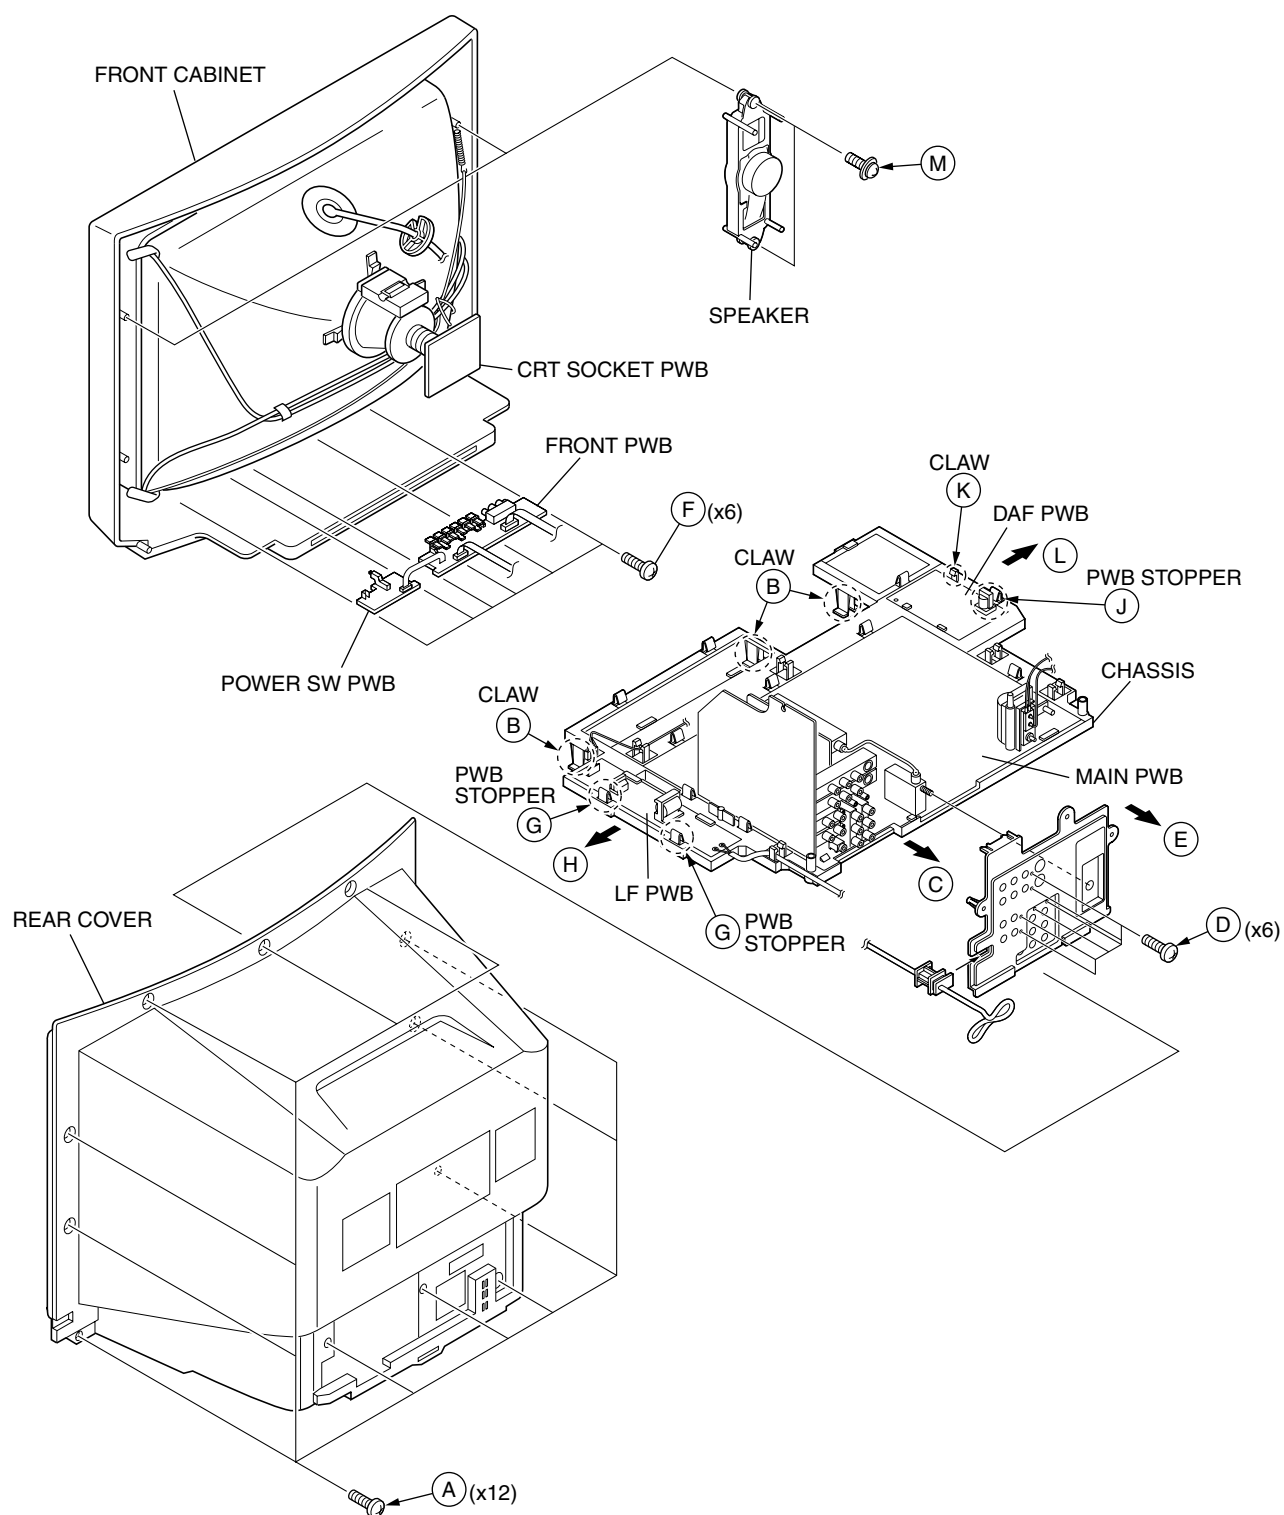

Fig.1
2. Remove the 12 screws marked (A) as shown in Fig.1.
1. Slightly raise the both sides of the chassis by hand and remove the 3 claws marked (B) under the chassis from the front cabinet as shown in Fig.1.
2. Withdraw the chassis backward along the rail in the arrow direction marked (C) as shown in Fig.1.
1. Remove the 6 screws marked (D) as shown in Fig.1.
2. When you pull out the TERMINAL BOARD in the direction of arrow marked E as shown in Fig.1, it can be removed.
1. Remove the 6 screws marked (F) as shown in Fig.1.
1. Lift the left side of the LF PWB while pressing the 2 PWB stoppers marked (G) in the arrow direction marked (H) as shown in Fig.1.
1. Lift the right side of the DAF PWB while pressing the PWB stopper marked (J) and claw marked (K) in the arrow direction marked (L) as shown in Fig.1.
1. Remove the 2 screws marked (M) as shown in Fig.1.
(4) System constant check and setting <ol style="list-style-type: none"> <li>1) Press SLEEP TIMER key and, while the indication of "SLEEP TIMER 0 MIN." is being displayed, press DISPLAY key and VIDEO STATUS key on the remote control unit simultaneously.</li> <li>2) The SERVICE MENU screen of Fig.1 is displayed.</li> <li>3) While the SERVICE MENU is displayed, again simultaneously press the DISPLAY and VIDEO STATUS keys to display the Fig.2 SYSTEM CONSTANT screen.</li> <li>4) Refer to the SYSTEM CONSTANT table and check the setting items. Where these differ, select the setting item with the MENU UP/DOWN key and adjust the setting with the MENU LEFT/RIGHT keys. (The letters of the selected item are displayed in yellow.)</li> <li>5) After adjusting, release the MENU LEFT/RIGHT key to store the setting value.</li> <li>6) Press the EXIT key twice to return the normal screen.</li> </ol>
(7) SERVICE MENU setting Verify what to set in the SERVICE MENU, and set whatever is necessary.(Fig.1) Refer to the SERVICE ADJUSTMENT for setting.